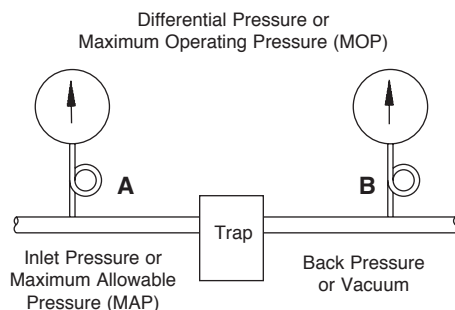

Figure LD-12. “A” minus “B” is Pressure Differential: If “B” is back pressure, subtract it from “A.” If “B” is vacuum, add it to “A.”
2. Pressure Differential. Maximum differential is the difference between main pressure, or the downstream pressure of a PRV, and return line pressure. See Fig. LD-12. The drain trap must be able to open against this pressure differential.
3. Maximum Allowable Pressure. The trap must be able to withstand the maximum allowable pressure of the system, or design pressure. It may not have to operate at this pressure, but it must be able to contain it. As an example, the maximum inlet pressure is 150 psig and the return line pressure is 15 psig. This results in a differential pressure of 135 psi; however, the trap must be able to withstand 150 psig maximum allowable pressure. See Fig. LD-12.